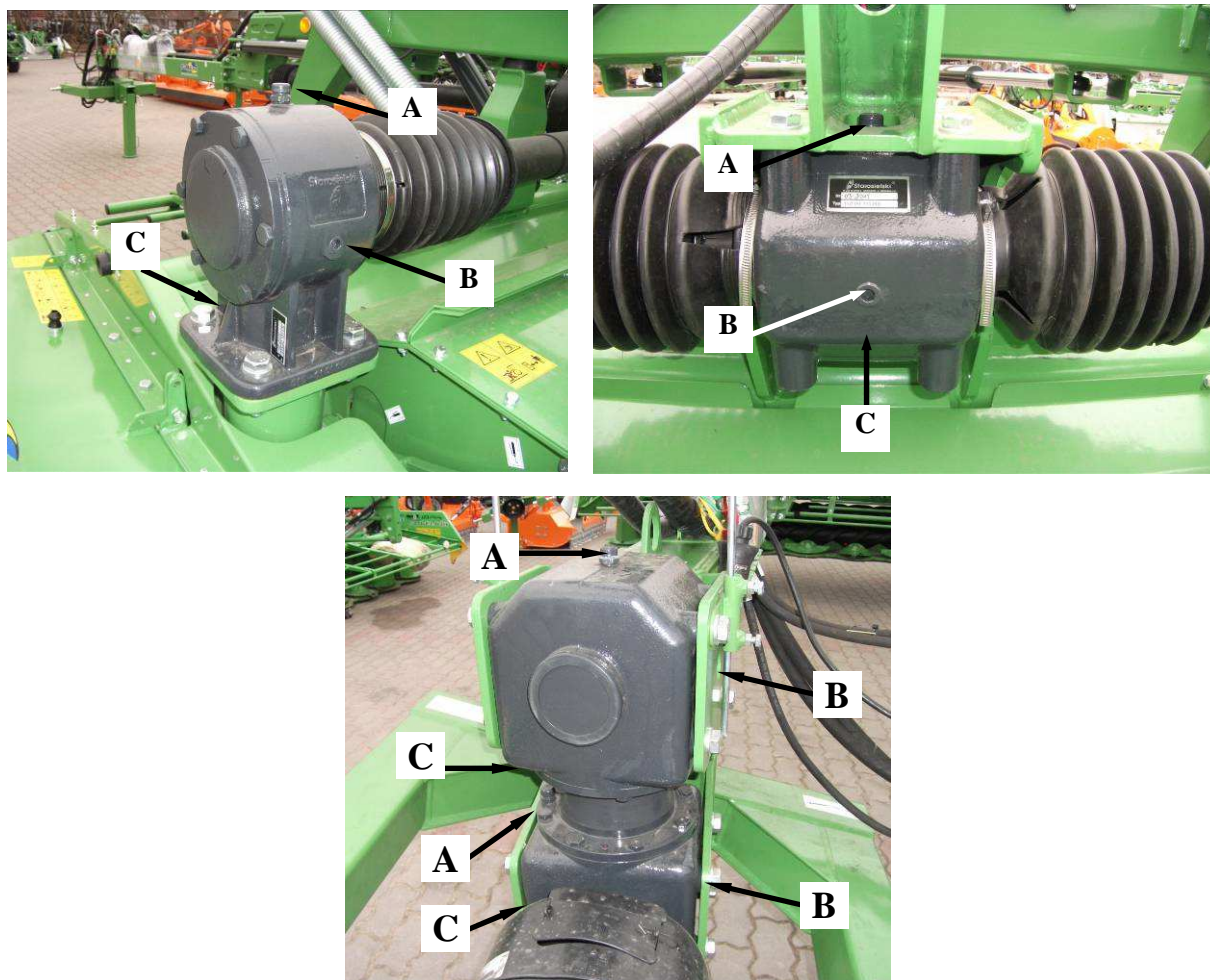

Fig. 35. Intersecting axis gears oil
Every day before starting work check the oil level and, if needed, refill after having removed the vent **A** on the top of the gear (**Fig. 35**). The oil level can be checked through check opening **B** on the side of the gear. Please refill the oil until it is visible in the check opening. Oil level in gear: approx. 1 liter. Removing the old oil from the gearbox is done through the outlet **C**.
- ☐ Open check opening **B** and outlet **C** (**Fig. 35**),